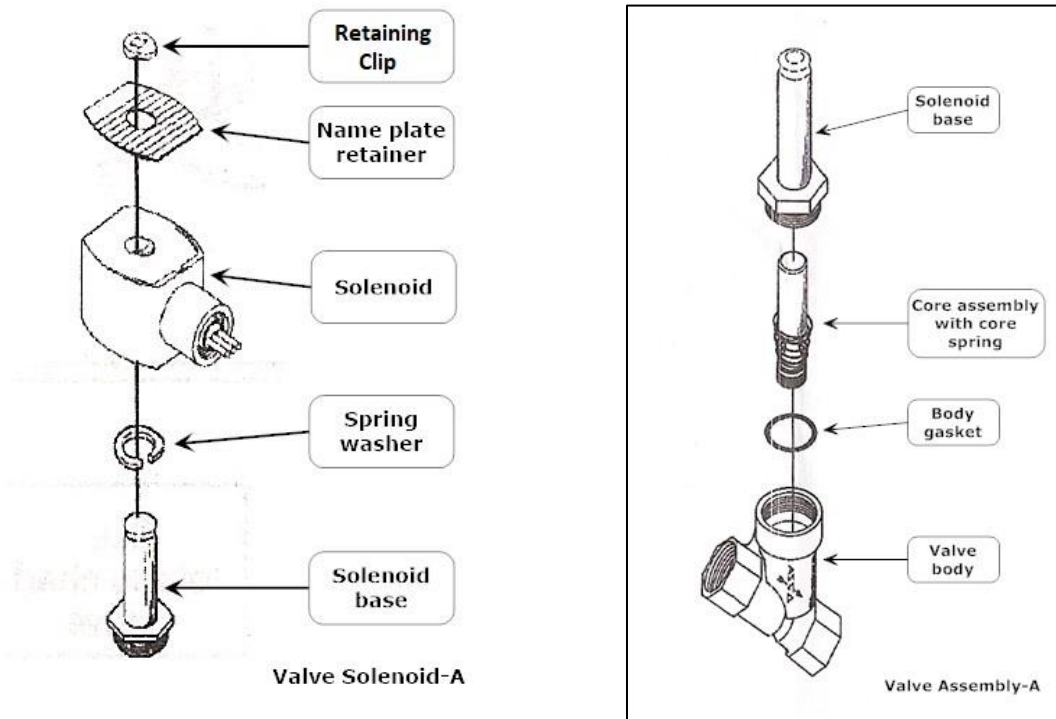

Figure 9-18: Valve Solenoid Assembly
2. Remove the Retaining Clip from the Solenoid Base and the Nameplate/Retainer and keep for reuse. **See Figure 9-18.**
2. Install the Body Gasket, Core Assembly, and Solenoid Base in the Valve Body. (Typical on all 4 Valve Bodies). **See Figure 9-18.**